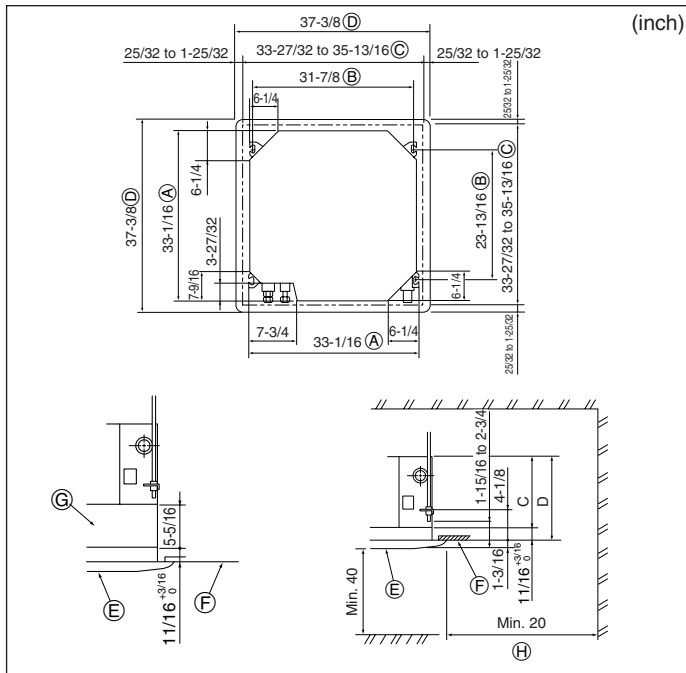

Fig. 3-2
④	Band	8
⑤	Screw with washer (M5 × 25) for mounting grille	4
⑥	Drain socket	1
⑦	Insulation	1
3.2. Ceiling openings and suspension bolt installation locations (Fig. 3-2)
- (A) Outer side of main unit
- (B) Bolt pitch
- (C) Ceiling opening
- (D) Outer side of Grille